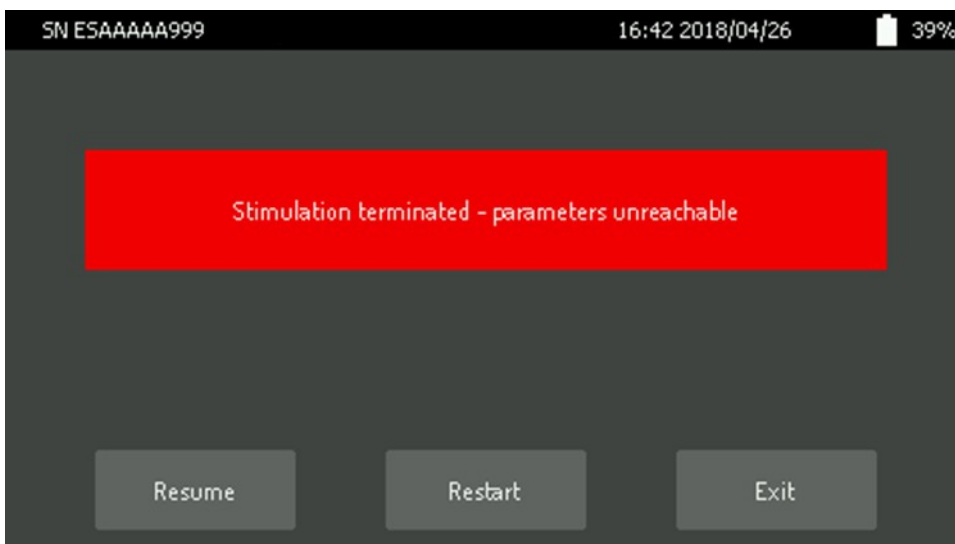

Figure 69. Stimulation terminated - parameters unreachable.
- parameters are unreachable (Figure 69),